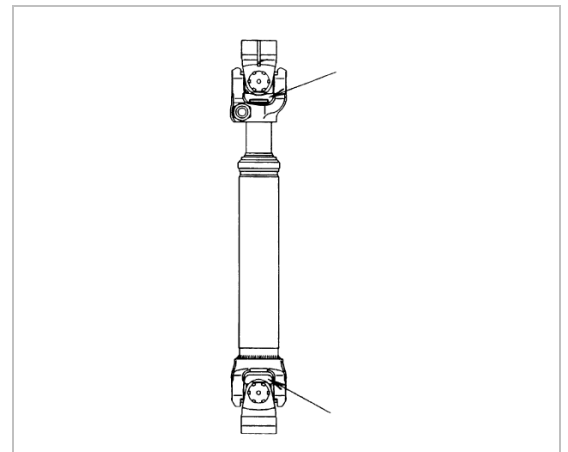

Fig. 22: Universal joint
1. Using a suitable tool, for example a ratchet belt, constrict the ball-track relay shaft until there is sufficient space for the steering gear to be built in without constricting the ball-track relay shaft any further (Fig. 22).
3. Relieve the tool, e.g. the ratchet belt, **cautiously** and remove it (refer to Fig. 22).